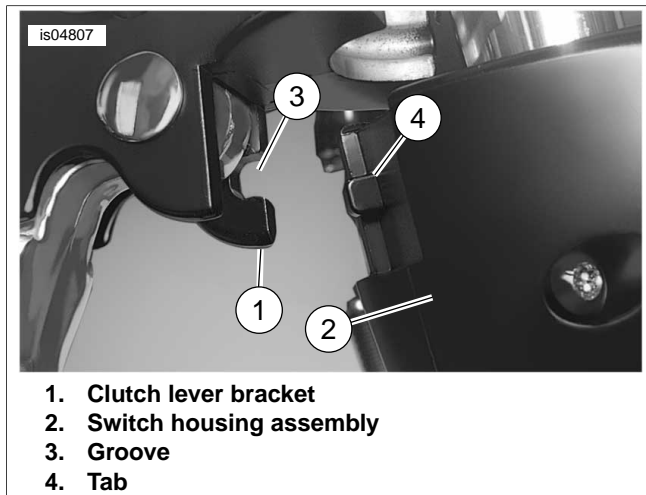

Figure 9. Clutch Lever Bracket and Switch Housing
- See Figure 9. Position the clutch hand lever assembly inboard of the switch housing assembly engaging the tab